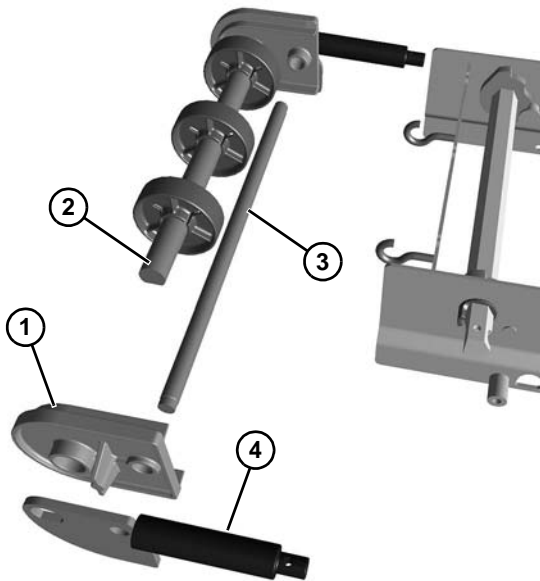

Figure 60
3. Install the tracking plate (**Figure 60, item 1**) to each side onto idler shaft (**Figure 60, item 2**) and pinch guard shaft (**Figure 60, item 3**).
4. Install the shaft assembly (**Figure 60, item 4**).